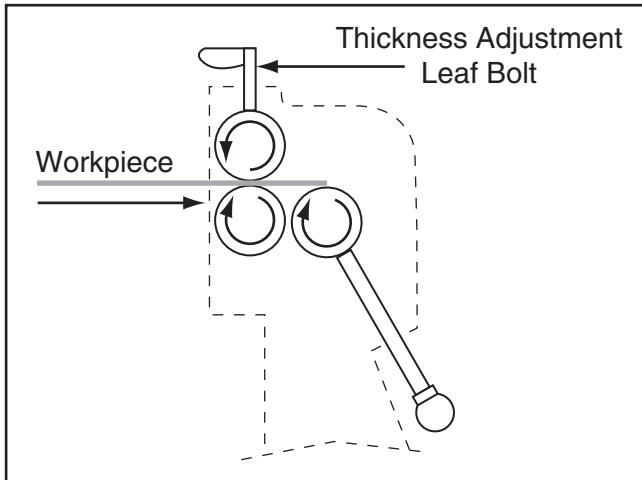

Figure 20. Workpiece positioned to start the curve.
2. Insert the workpiece between the upper and lower rollers and just over the rear roller, as illustrated in **Figure 20**, then snug the thickness adjustment leaf bolts down to hold the workpiece secure. Make sure you tighten the leaf bolts the same amount.